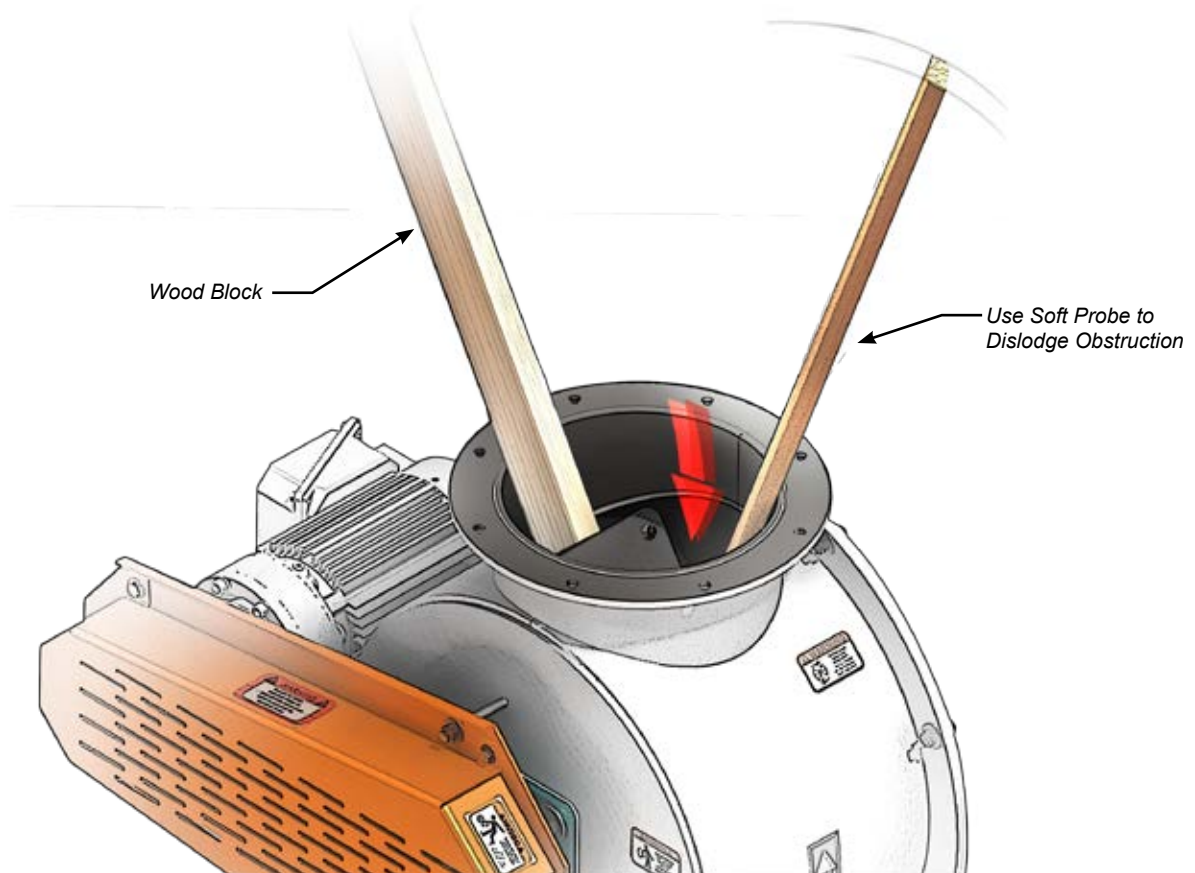

FIGURE 6
3. Place a block in the airlock to prevent the rotor from turning unexpectedly (Figure 6).